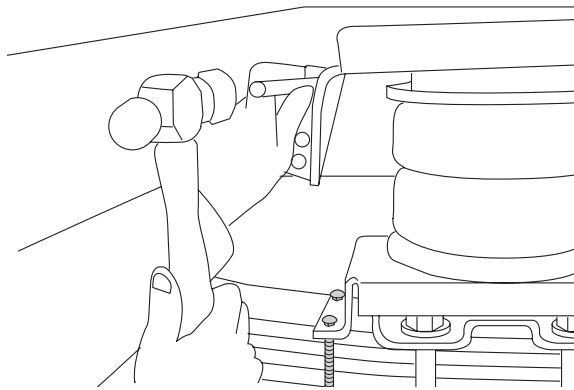

fig. 6
7. Clamp the upper bracket to the frame rail with a C-clamp or welding clamp and center punch one mounting hole (Figure 6).